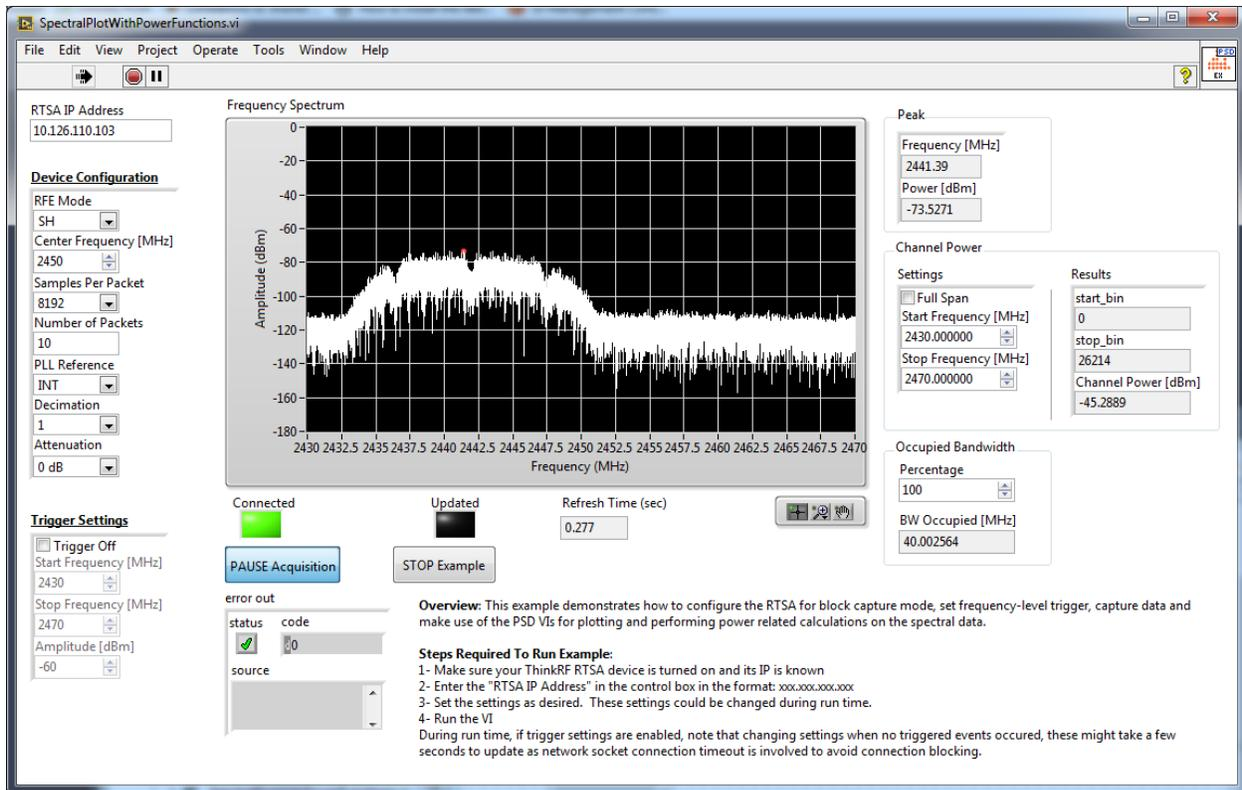

Figure 4: An example of the *SpectralPlotWithPowerFunctions.vi* running
5. Run the *SpectralPlotWithPowerFunctions.vi* by clicking on the Run  button. Figure 4 shows an example of the VI running.